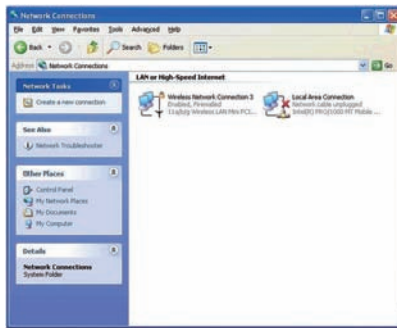

Fig. 2.4.2.a "Network Connections"
1) Open "Network Connections". (Fig. 2.4.2.a)